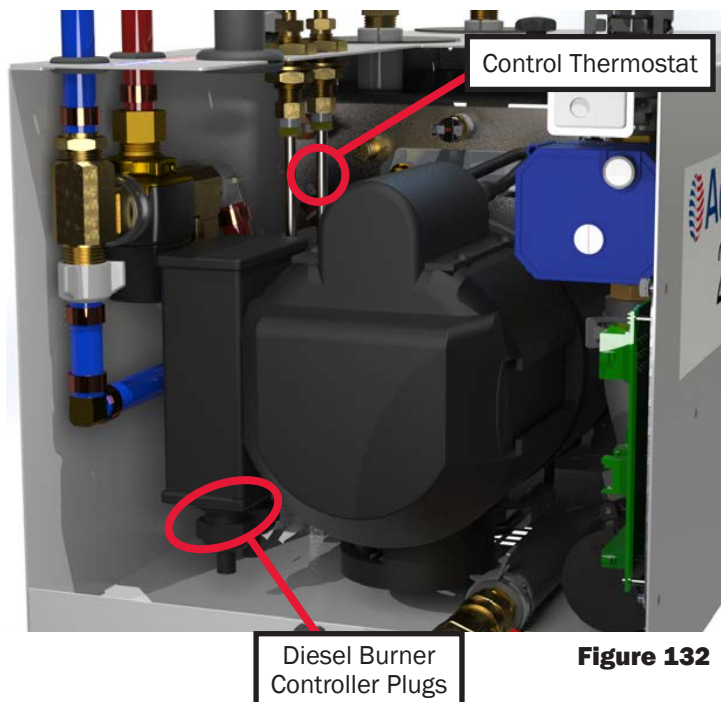

Figure 132
- Unplugging the diesel burner controller (Figure 132)